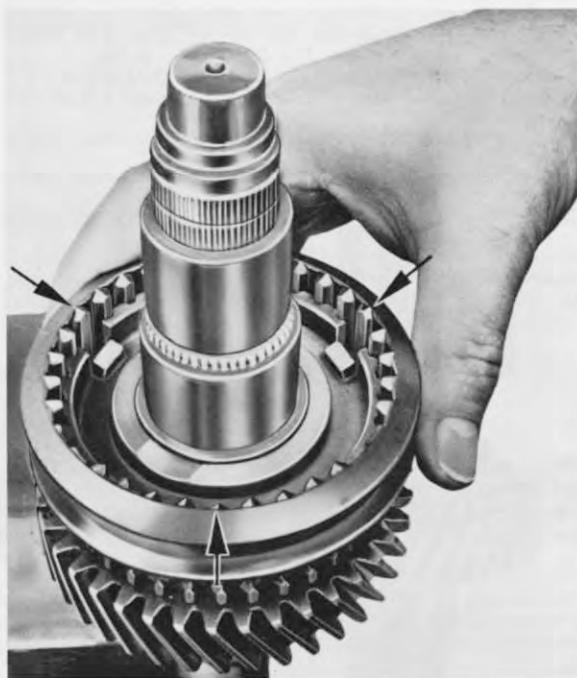

Fig. 29
5. Push the sliding sleeve (406) onto the splining of the synchrobody as shown in Fig. 29 (This sliding sleeve is the same on both sides). The 3 flat teeth lie on the pressure pieces. Engage pressure pieces in the notches of the teeth.
14. Slide the sliding sleeve (420) onto the synchrobody (see Fig. 29) such that the 3 flat teeth come to rest on the pressure pieces. The narrower collar and the small rounded off teeth must lie against reverse gear. Engage pressure pieces in the notches of the teeth.
10. Push the sliding sleeve (426) onto the splining of the synchrobody (see Fig. 29). The 3 flat teeth come to rest on the pressure pieces. Engage pressure pieces in notches.